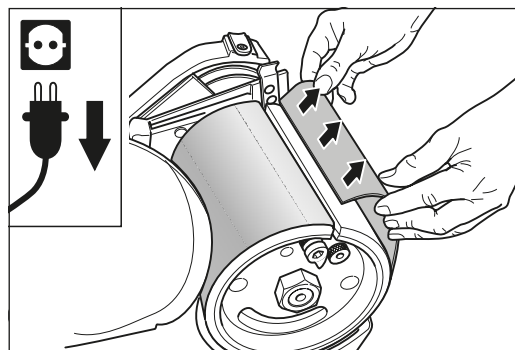

Fig. 32 Remove the worn abrasive sheet.
- 8 Remove the worn abrasive sheet (fig. 32).